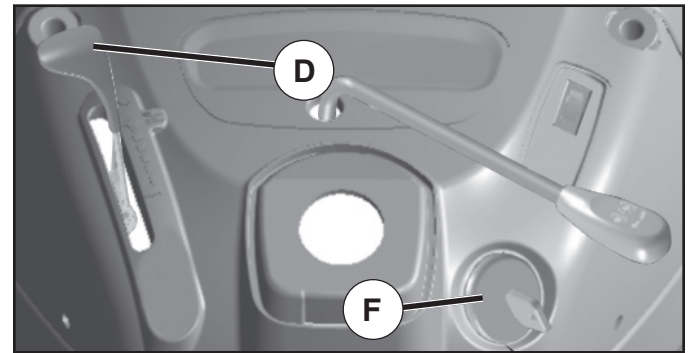

Fig. 9
- Move throttle control (D) between half and full speed (fast) position.
- Turn ignition key (F) to "STOP" position and remove key. Always remove key when leaving tractor to prevent unauthorized use.
## TO USE THROTTLE CONTROL (D) (See Fig. 9)